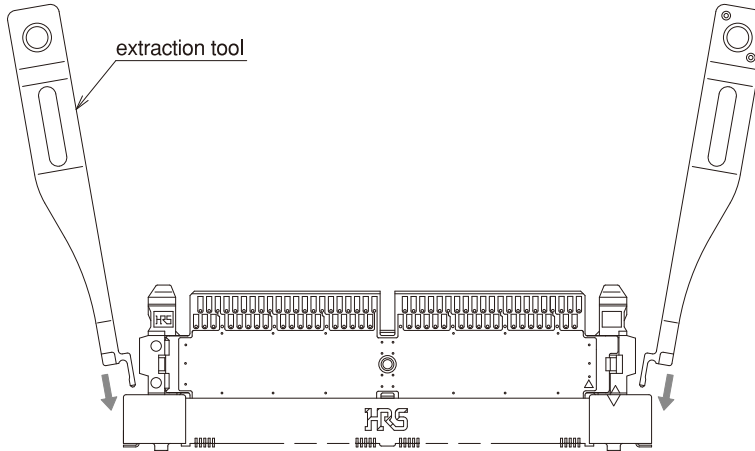

Fig. 1
**Step 1** ● Fully insert the tools into each end of the receptacle assembly (Fig. 1) assuring that they will be over the hold areas of the Transmission Module frame. Ref. Fig. 2